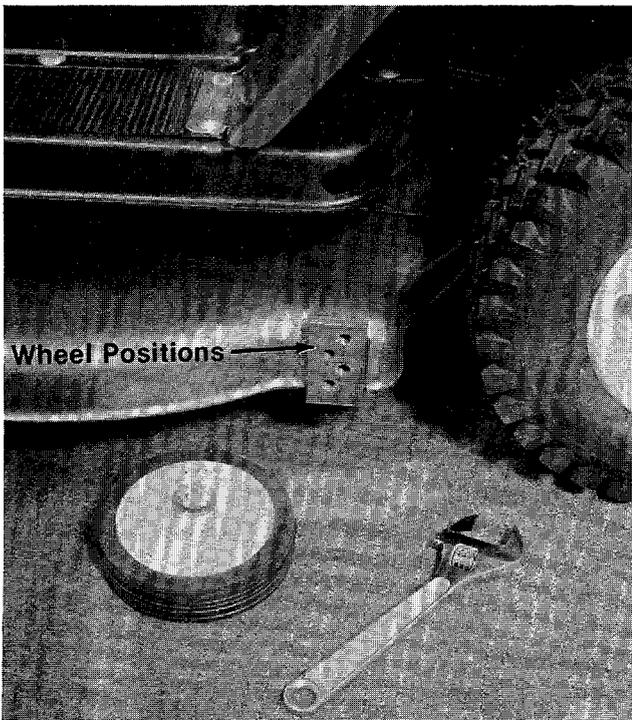

FIGURE 7.
1. Remove the two deck wheels by unscrewing the axle bolts. See figure 7.
5. Move the lift and disengagement lever backward to the disengaged position and lock it. See figure 7.